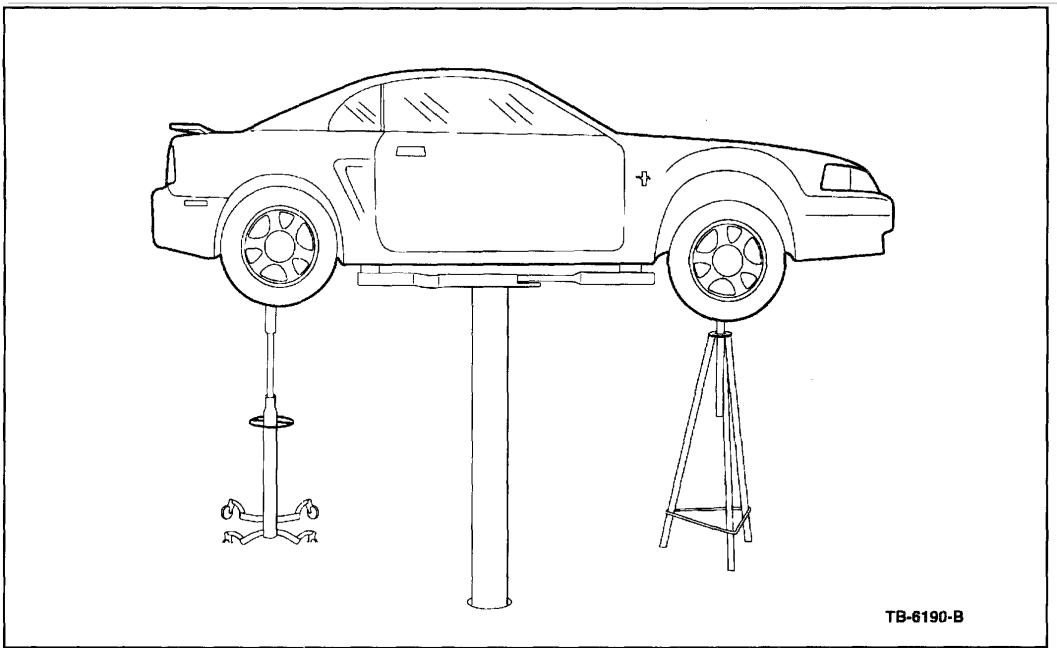

Figure 2
1. With vehicle still on hoist, place a tall screw-type jack stand at the front of vehicle under the front crossmember just below the steering gear. Adjust stand to make contact with the crossmember. Do not raise vehicle with the jack stand (refer to Figure 2).
2. Use an automatic transmission jack to raise the axle assembly as far as possible without raising the vehicle off the hoist (refer to Figure 2).